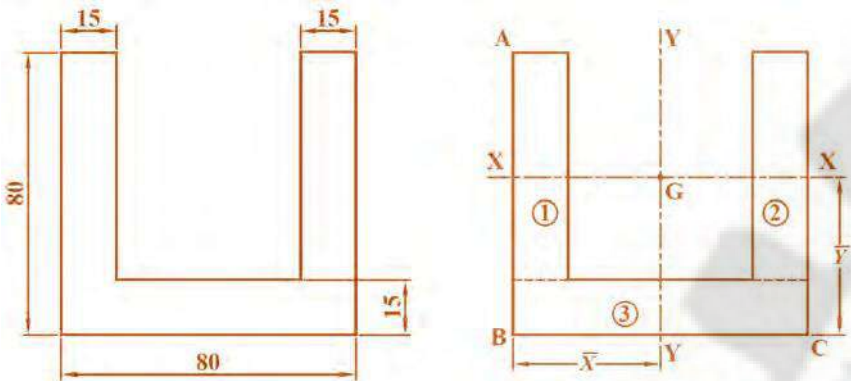

Fig.P5.13 M.I of channel section [Example 5.13]
**Find the moment of inertia of the section shown in the fig.P5.13 about the horizontal centroidal axis. Also find the radius of gyration about that axis.**